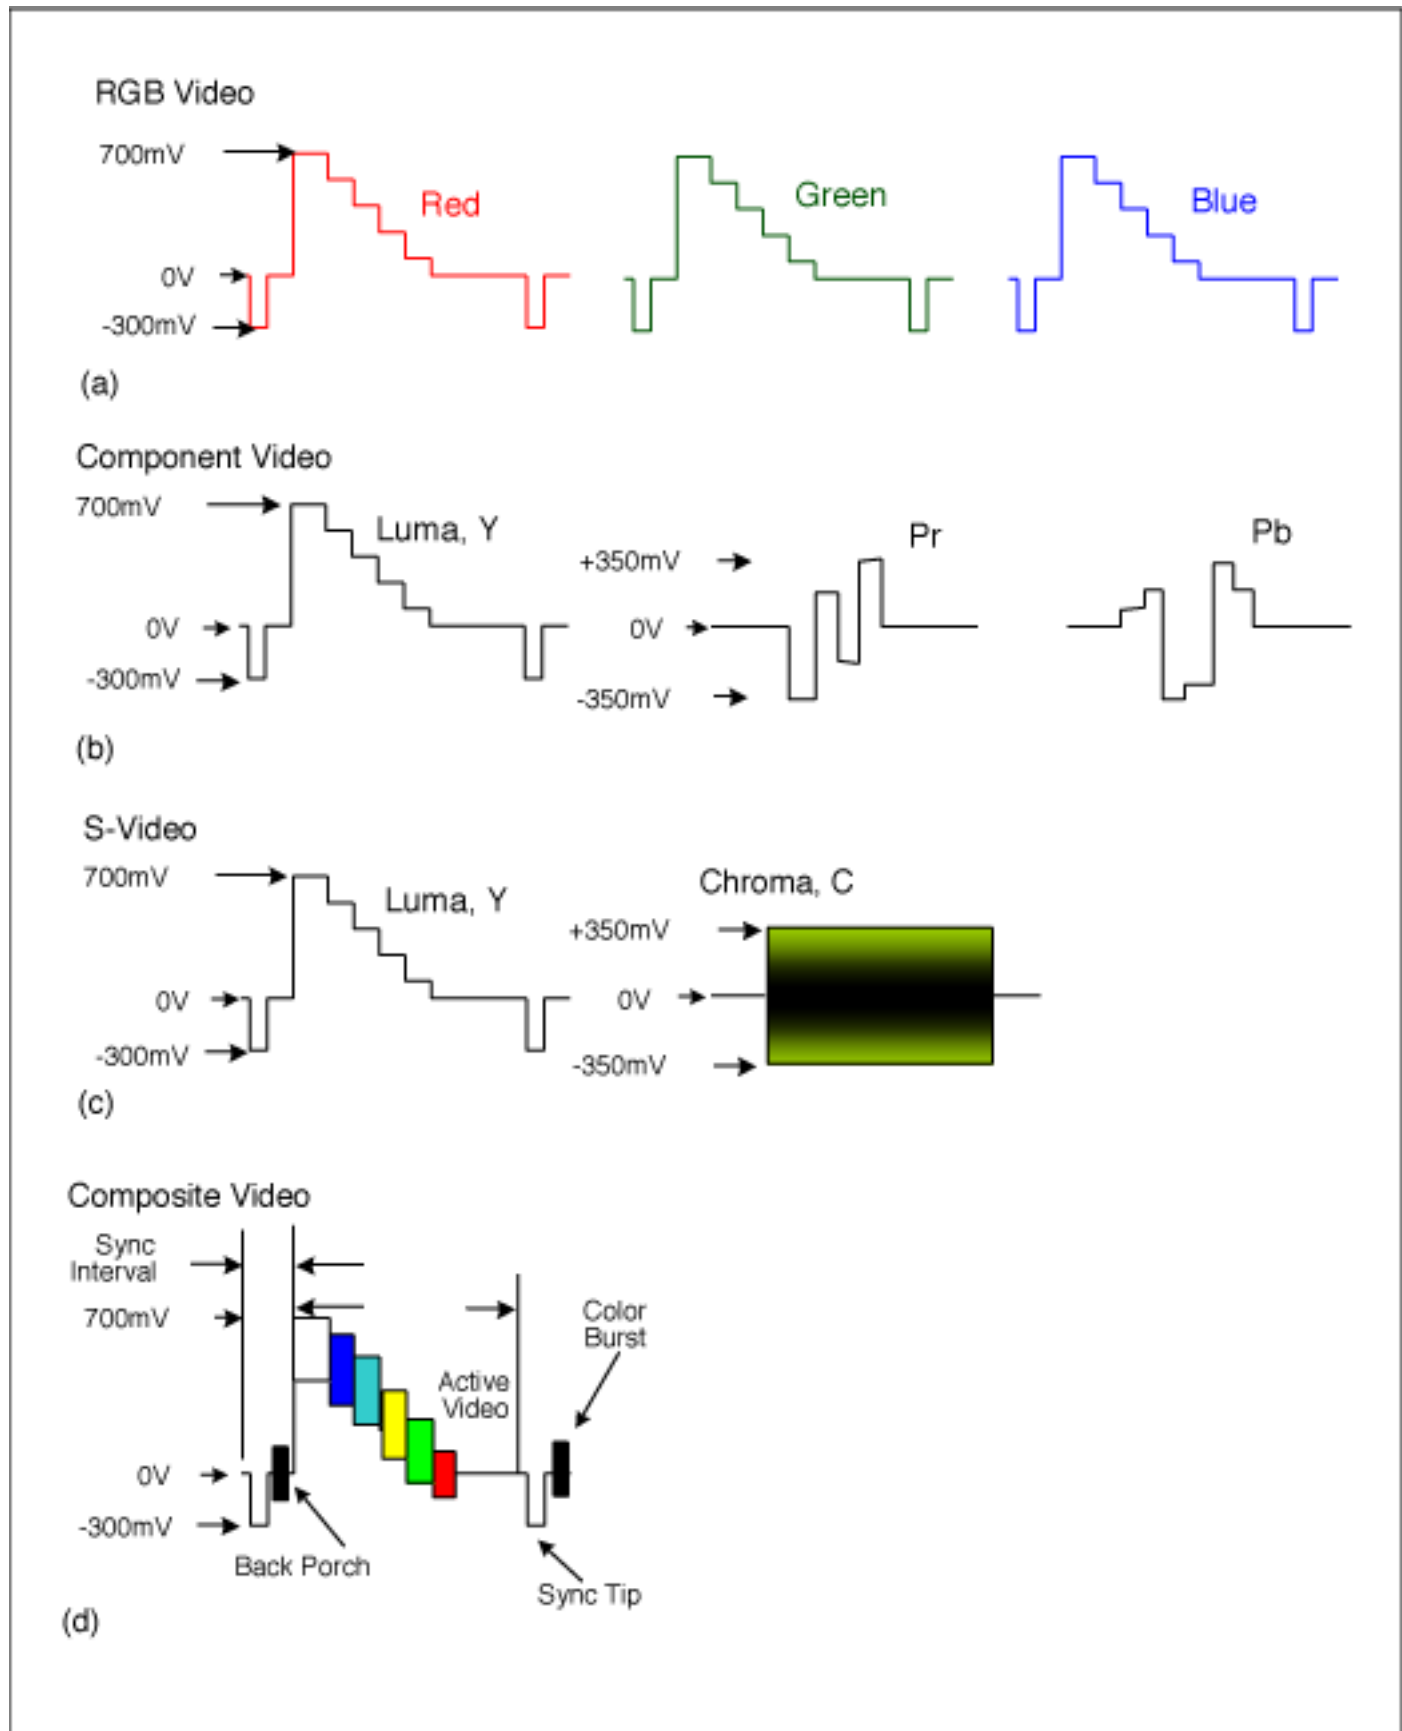

Figure 2. These RGB (a), Component (b), S-Video (c), and Composite (d) Video Signals show the Sync interval, Active video, Sync Tip, and Back Porch.
The video signals you will likely encounter are shown in Figure 2, with the standard amplitudes found in video interfaces (see EIA 770-1, 2, and 3). Chroma in S-Video, and Pb and Pr in component video, resemble the sine wave varying around a reference point, as noted above. Luma (Y), composite, and RGB only vary in a positive direction from 0 V (called the "black" or "blank" level) to +700 mV. This is due to a tacit agreement within the industry and not to any standard. Note that they all are complex waveforms with a sync interval that may or may not be defined or even used. For example, Figure 2 shows RGB with sync as used in NTSC and PAL formats. In PC (graphics) applications, the sync is a separate signal, and RGB doesn't have it